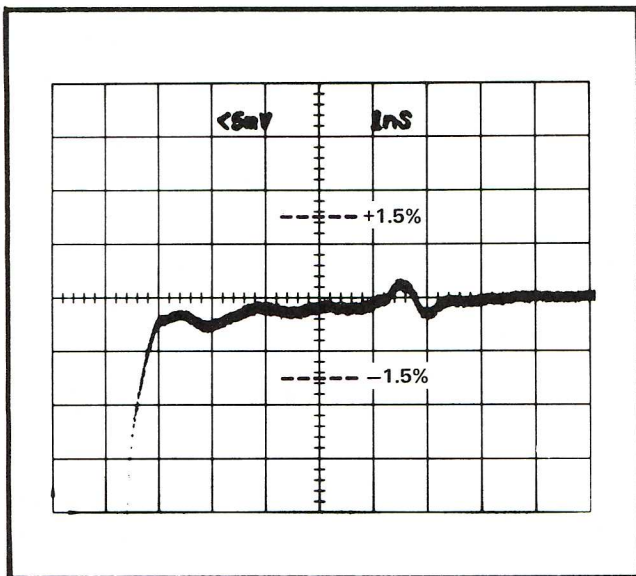

Fig. 5-4. PULSE OUTPUT aberrations.
b. Use the 7S11 DC Offset control to position the top of the PULSE OUTPUT (at the leading edge) to the center of the graticule, and change the mVolts/Div to 5 mV. This sets the amplitude at 1% per division (see Fig. 5-4).
Total aberrations shown in Fig. 5-4 combine the aberrations of the Sampling Oscilloscope, coaxial connectors, cables, and the Type S-54. The large aberration shown between the graticule line 6 and 7 is a result of a coaxial connector reflection.